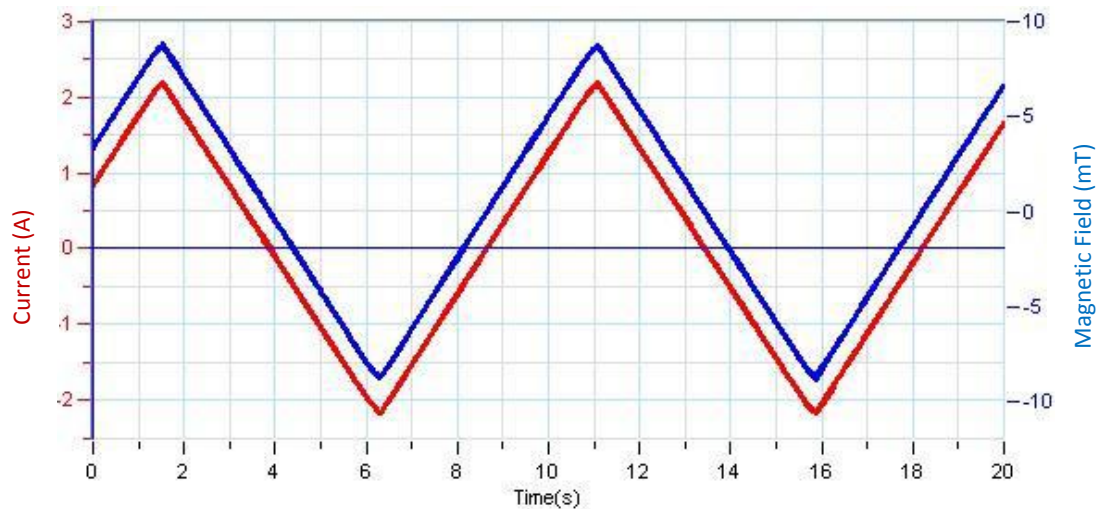

Figure 2
4. The data logger will graph the data from the two sensors. The graph will show both the magnetic field and the current as a function of time, each in a separate color (Figure 2). Check that both the magnetic